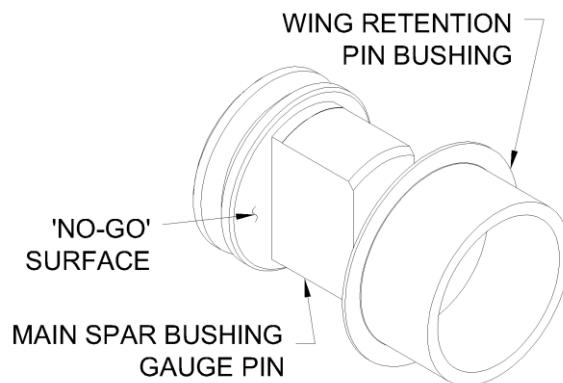

Figure 7: Wing Retention Pin Bushing
- Inspect each fuselage pin and all wing retention pin bushings for wear or cracks. Inspect the center section area around the bushings for deformation or cracks. Use the Main Spar Bushing Gauge Pin to check the wear of both ends of all of the wing retention pin bushings. Insert the Gauge Pin into the bushing, and then rotate the Gauge Pin. The Gauge Pin is a 'go, no-go' device. If the 'no-go surface' contacts the bushing (or mounting surface), the wing retention pin bushing must be replaced. See **Figure 7**.